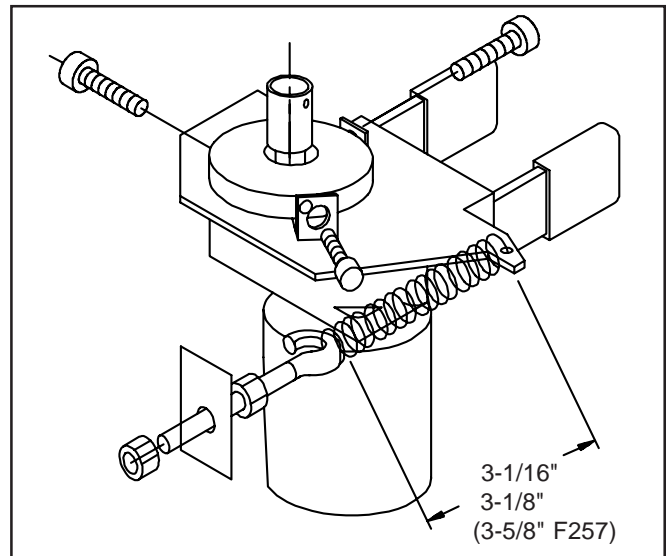

Figure 47. Tension Spring
5. Connect tension spring and adjust to 3 1/16"-3 1/8" (Fig.47).